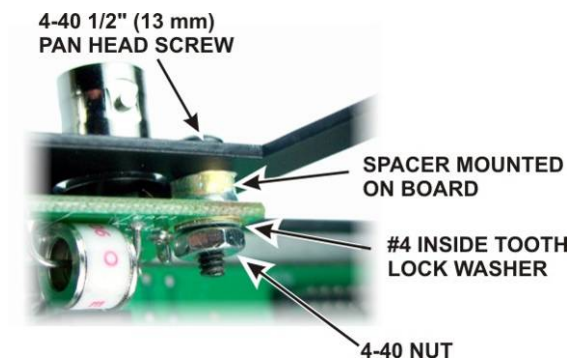

Figure 10. Mounting Hardware.
- ☐ Mount the KXV3B rear panel over the BNC connectors using two 4-40 1/2" (13mm) black pan head screws through the corner holes with #4 inside tooth lock washers and 4-40 nuts on the inside as shown in Figure 10. Do not fully tighten the nuts yet.
- ☐ Tighten the screws and nuts holding the KXV3B to the back panel that you installed earlier (See Figure 10)